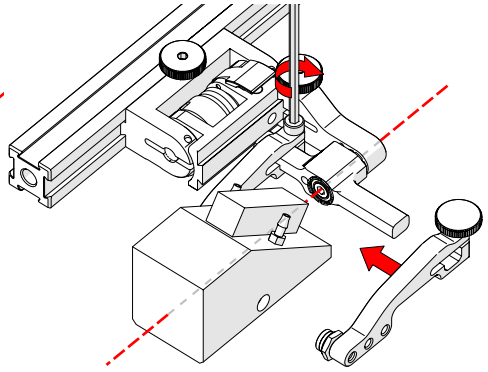

Fig. 48 - Place wedge
7. Position the wedge on the inner probe holder arm (Fig. 48).